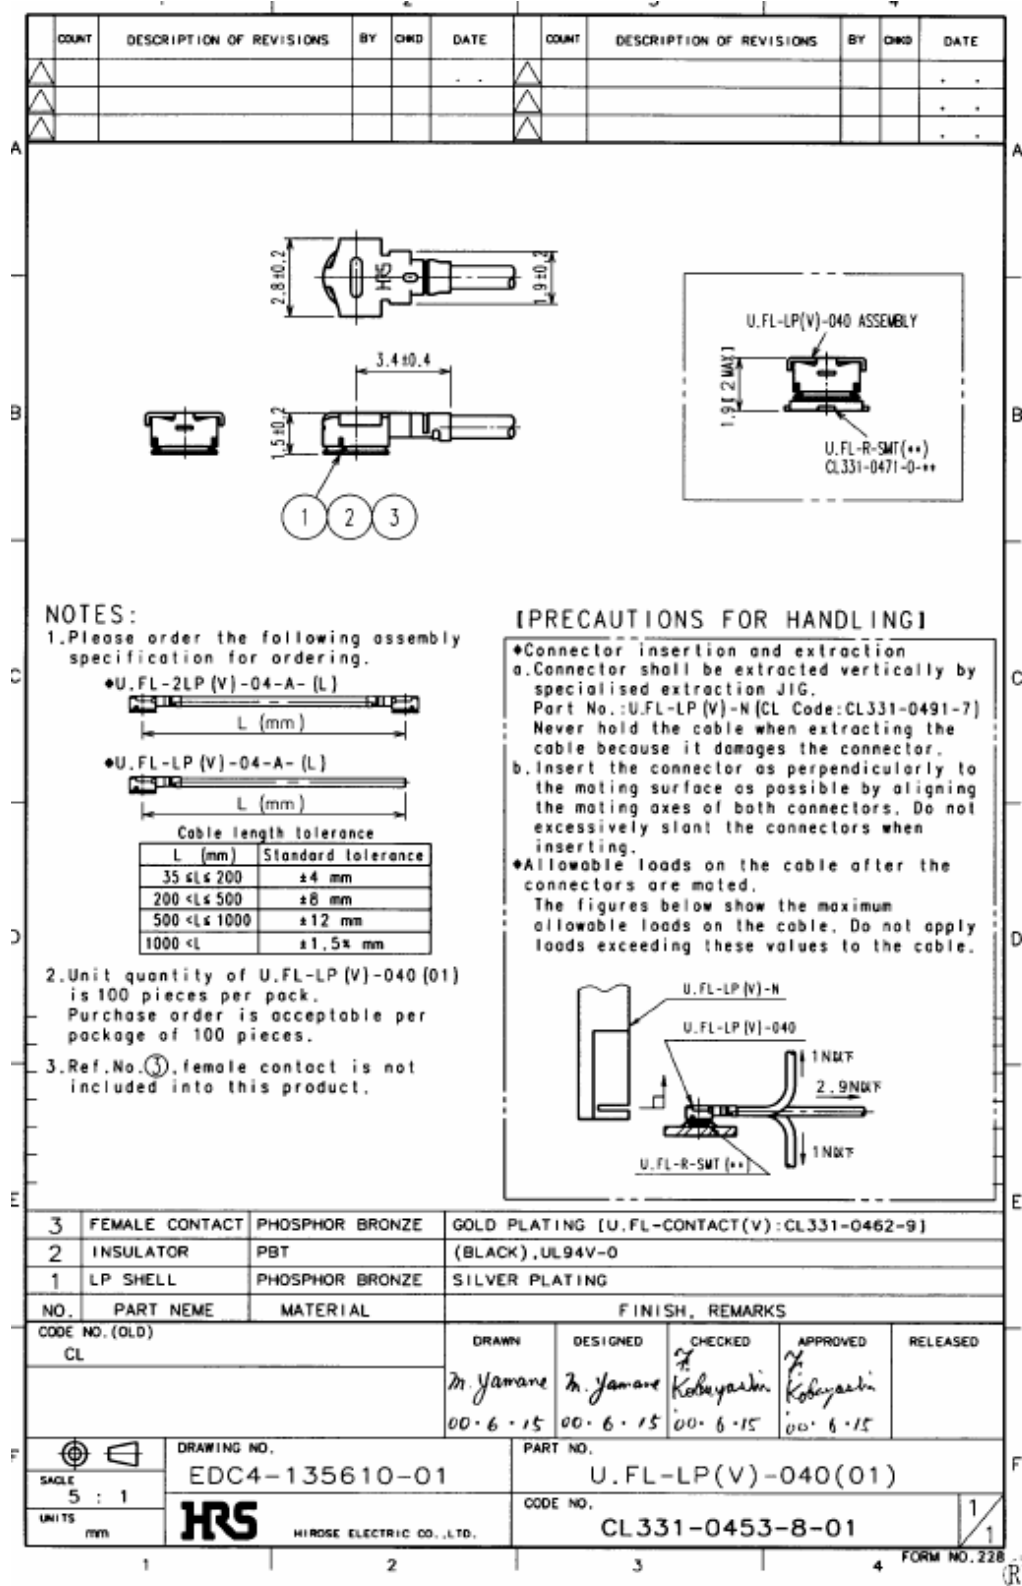

Figure 39: Specifications of U.FL-LP-(V)-040(01) plug
In addition to the connectors illustrated above, the U.FL-LP-(V)-040(01) version is offered as an extremely space saving solution. This plug is intended for use with extra fine cable (up to $\varnothing 0.81$ mm) and minimizes the mating height to 2 mm. See Figure 39 which shows the Hirose datasheet.